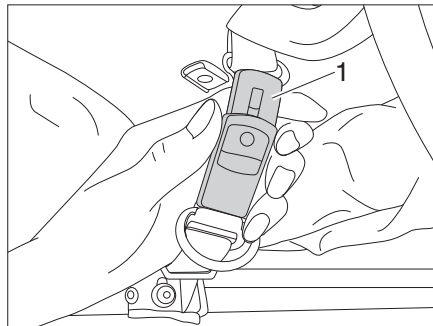

Fig. 9 Open the securing belt
- Open the securing belts (Fig. 9,1).